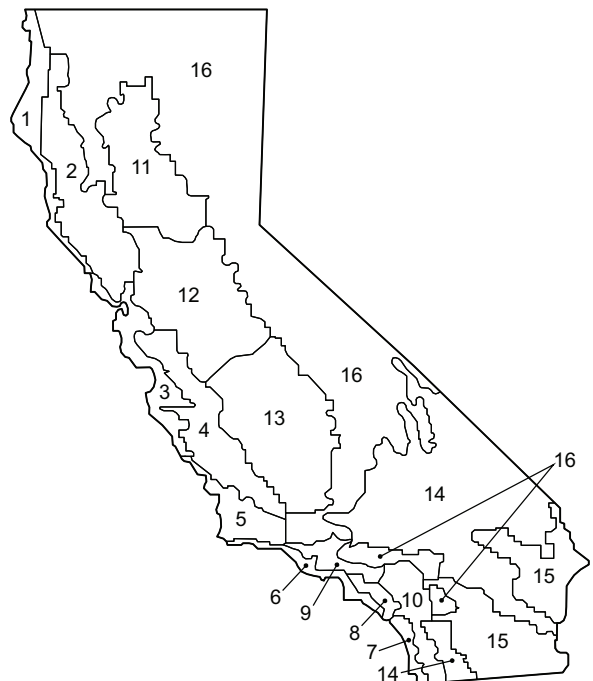

Fig. 77 — California Title 24 Zones
b. Refer to Fig. 77 for map of California Title 24 zones.